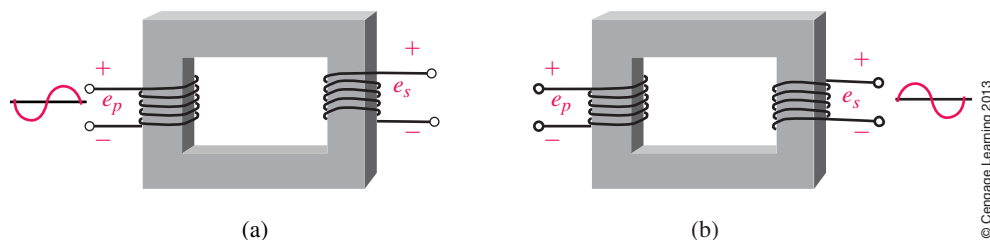

FIGURE 23–71
- For the transformers of Figure 23–71, sketch the missing waveforms.
- If $e_s = 100 \sin \omega t$, what is e_p when wound as in Figure 23–7(a)?
- If $\mathbf{E}_p = 24 \text{ V} \angle 0^\circ$, what is $\mathbf{E}_s$ when wound as in Figure 23–7(a)?